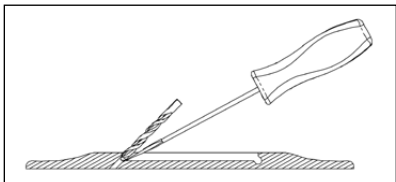

FIGURE 7
- The last 1/8" at the end of the pickup is not active. At least 1/4" of saddle must project beyond the E strings for the pickup to produce a balanced string response. If your guitar has inadequate saddle slot extension beyond the outside strings, it will be necessary to drill a small horizontal hole at the appropriate end of the slot to extend the inactive region of the pickup beyond the saddle. It is important to avoid disrupting the floor of the saddle slot when doing this. To protect the slot, lay a narrow slotted screwdriver under the tip of the drill bit before drilling the horizontal hole. (refer to Fig. 7)
3. Drill the pickup hole at a 45 degree angle at the very end of the saddle slot (either end is OK). If you have a 1/8" saddle, a 1/8" drill bit should be used assuming it fits into the slot smoothly. If it feels tight, use a 7/64" bit. Place the blade of the narrow screwdriver under the tip of the drill bit when drilling to avoid removing material from the bottom of the slot. (refer to Fig. 7)